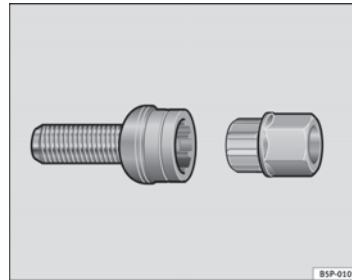

Fig. 185 Anti-theft wheel bolt
- Insert the adapter onto the wheel bolt and push it on as far as it will go ⇒ Fig. 185.